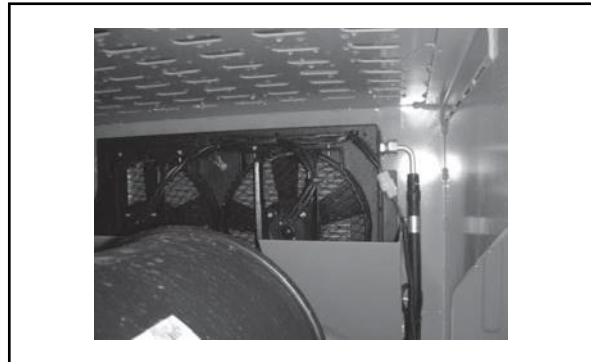

Figure.5
1.AC outdoors radiator-“condenser” must be cleaned regularly; refer to figure 5.